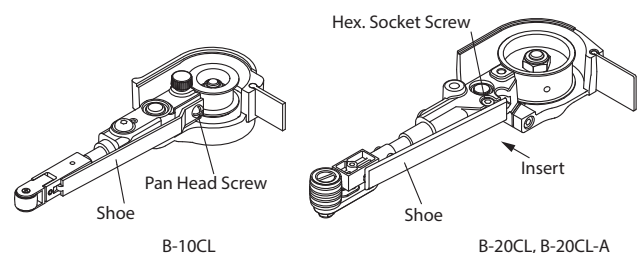

Fig.12
- a) B-10CL, B-20CL, B-20CL-A (Fig.12)